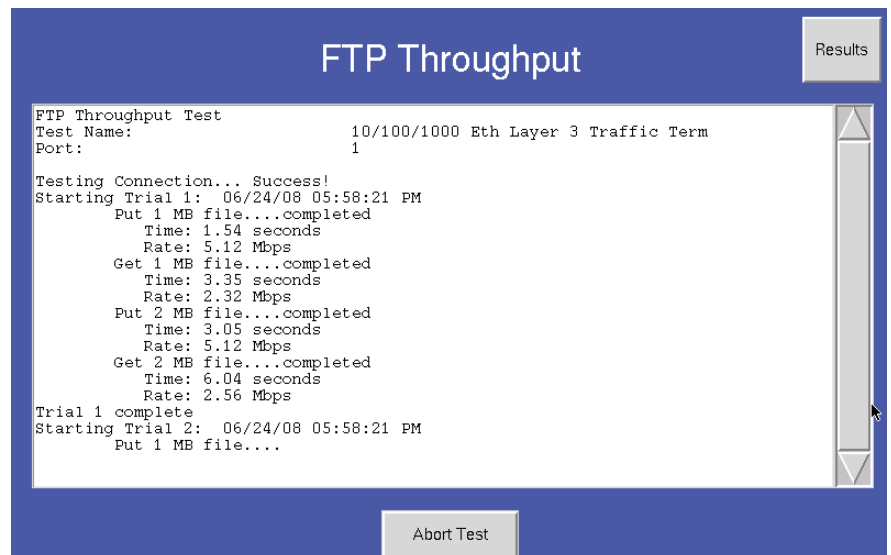

Figure 83 FTP Throughput dialog box
- 10 The FTP Throughput dialog box appears, providing the status of the connection, each of the file transfers, and throughput measurements. See Figure 83.